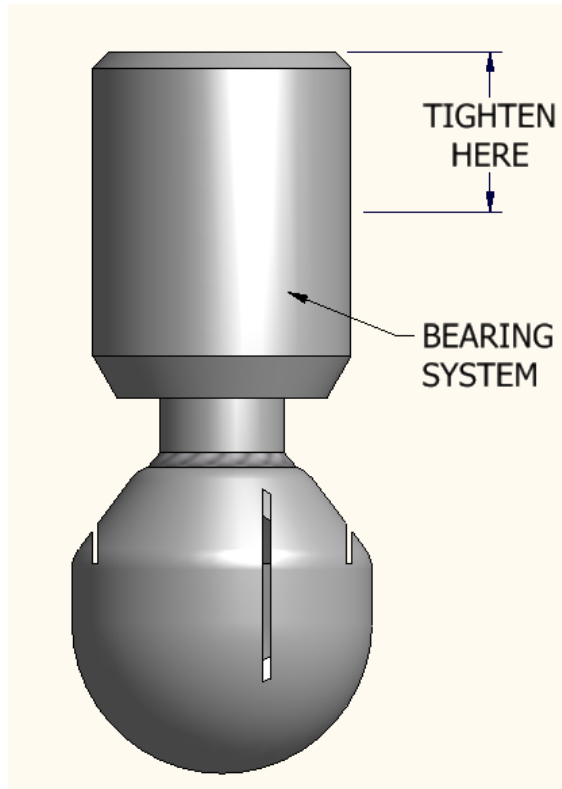

Figure 6 - Illustration of where to Tighten Threads
3. Using the strap wrench or soft jaw pliers directly over the threaded section (see Figure 6), tighten the nozzle 1 to 2 turns. If possible try to avoid applying torque directly over the bearing system.